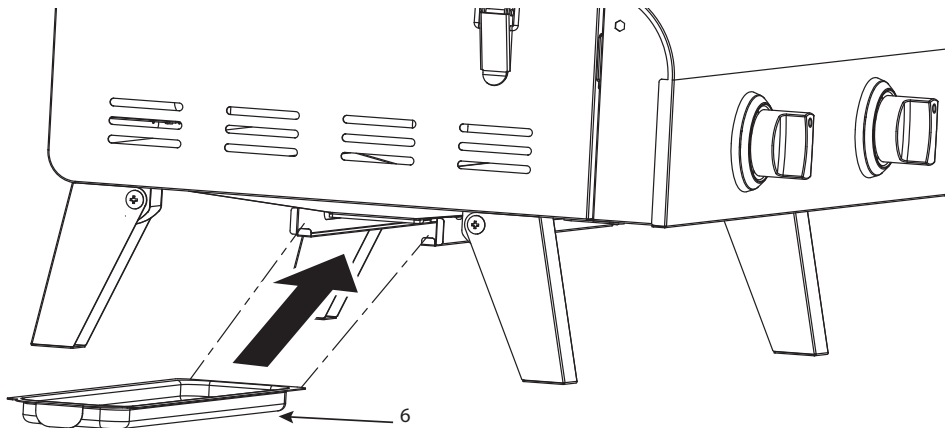

Figure 1
1. Attach regulator with 38" LP gas hose to the propane cylinder by turning the regulator handle clockwise as shown in Fig 1. If the grill is not in use, the gas must be turned "OFF" at the propane cylinder.